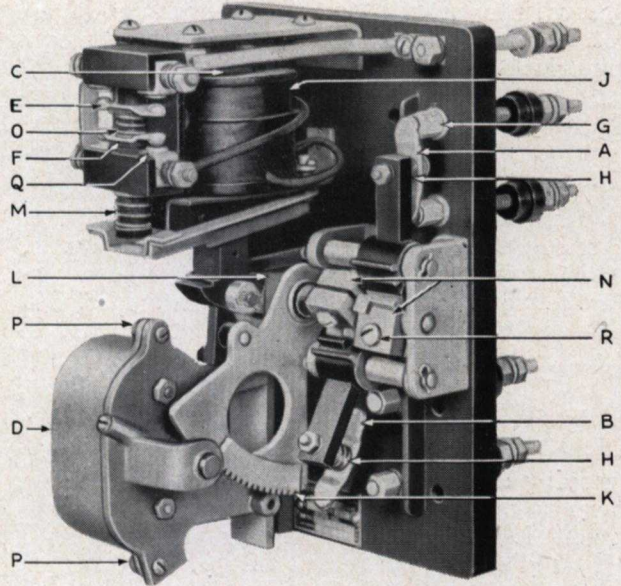

Fig. 1. CR2820-1729A Definite-time Relay
The CR2820-1729 relay must be mounted in a vertical position with the escapement mechanism at the bottom as shown in Fig. 1.
The relay shown in Fig. 1 has two contacts, (A) normally closed, and (B) normally open. A solenoid (C) has its plunger connected to an escapement mechanism (D). When the solenoid is energized, the mechanism and all contacts connected to it, whether normally open or normally closed, are actuated instantaneously by the solenoid plunger on the up stroke. When the solenoid is de-energized, the escapement mechanism provides time delay action for the contacts. In Fig. 1 the contact (A) has a time delay on closing, and contact (B) has time delay on opening. Other forms are available having various combinations of normally open and normally closed contacts, some forms having time delay after the solenoid is de-energized, and others having the time delay after the solenoid is energized.
The instantaneous interlocks shown at (E) and (F) in Fig. 1 are used on forms of the relay for direct current. The normally open interlock (E)
Standard a-c relays do not have the instantaneous interlocks E and F, although special a-c relays may have a normally open instantaneous interlock similar to that shown at E, Fig. 1, for use as a holding interlock with a momentary-contact push button.
operating gears (N), Fig. 1, first loosening screw (R). Relay forms A, B, C, D, L, M, and Q have a time range of 1 to 7 seconds, and Forms E, F, G, H, J, K, N, P, R, and S have a time range of 1 to 10 seconds.
When ordering renewal parts, refer to the table beneath Fig. 1; order by Cat. No. For any parts not listed, refer to the nearest sales office of the General Electric Co.; give the complete nameplate rating of the relay, and describe the part in detail.